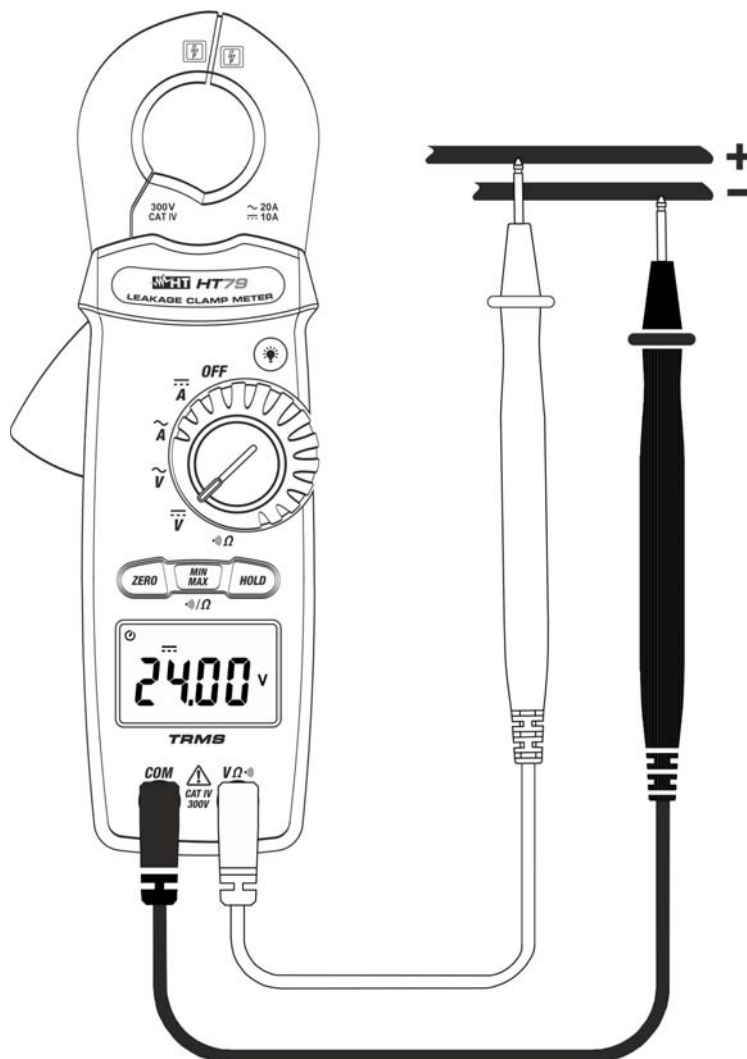

Fig. 4: Use of the instrument for DC voltage measurement
3. Position the test leads in the desired spots of the circuit to be measured (see Fig. 4). The display shows the value of voltage.